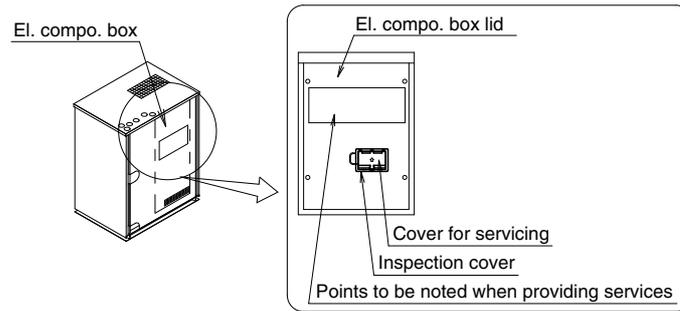

Figure 1
(1) Check the connection of interlock circuit	The outside unit cannot be operated if the interlock circuit has not been connected.
(2) As necessary, configure the system settings onsite by using the DIP switch (DS1) and BS button switches (BS1 to 5) on the outside unit PCB (A1P). After this, close the el. compo. box lid.	Always perform configuration after turning ON the power. To learn the setting method, refer to the [Service Precautions] label attached at the el. compo. box lid shown in the figure 1. Remember, the actual settings you have made must be recorded on the [Service Precautions] label.
(3) Turn ON the power to the outside units and indoor units.	Make sure to turn ON the power 6 hours before starting the operation. This is necessary to warm the crankcase by the electric heater.
(4) Start the heat source water pump and fill the heat source water in the outside unit.	The outside unit cannot be operated if the heat source water pump is not running.
(5) Make sure that the temperature of heat source water is kept within the operation range (10 - 45°C).	The outside unit cannot be operated at a temperature outside the operation range.
(7) • Using the BS button switches (BS1 - 5) on the PCB (A1P) of outside unit, carry out a field setting, if necessary. • In case of an installation of multiple outside units, carry out the setting on the master unit. (Setting on the slave unit becomes invalid.)	Always carry out the setting only after the power supply has been applied. For the method of setting, refer to the label of “Points to be noted when providing services” attached to the el. compo. box lid (shown in the figure 1) of the outside unit. (After setting, record the details of that setting to the label of “Points to be noted when providing services” without fail.)
(8) Check all stop valve is opened. If some stop valve is closed, open them.	[CAUTION] Do not leave any stop valve closed. Otherwise the compressor will fail. For Heat Recovery system of cooling and heating: Open all stop valves on the suction side, discharge gas side and liquid side. For cooling and heating switching operation system: Open the stop valves on discharge gas side and liquid side. (Keep the stop valve on suction side fully closed.)
(9) Perform the check operation following the instructions printed on the [Service Precautions] label.	If you press the test operation button (BS4) on the PCB (A1P) of the outside unit, for 5 seconds, the test operation starts. If you want to interrupt the test operation, press the RETURN button (BS3) on PCB (A1P) of the outside unit. The system continues residual operation for about 1 minute (maximum 10 minutes) and then stops. (During test operation, you cannot stop it by a command from a remote controller.) You need to perform the above settings on the PCB by accessing the PCB through the inspection cover on the switch box cover.